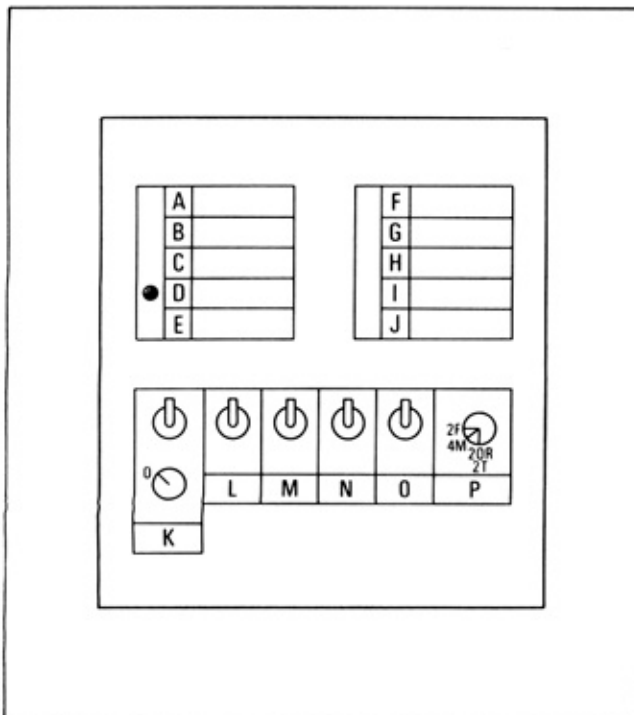
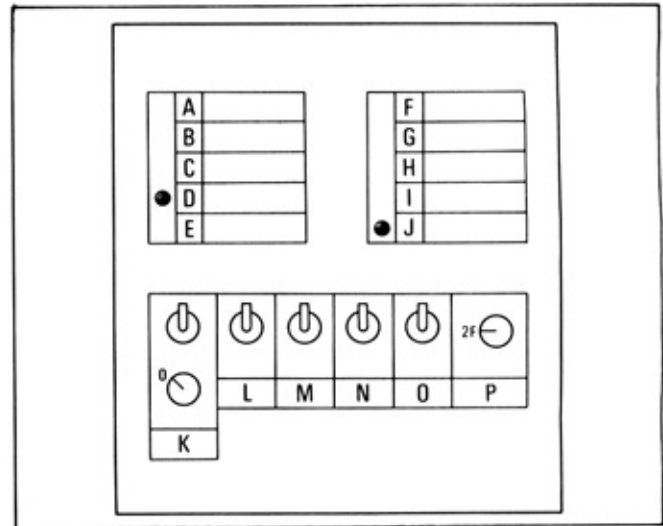

Fig. 18-121 2T-C and 4M Engines and 20R Engine w/o CCo
Fig. 18-123 2F Engine
5. The checker indicator lights should turn on as shown in Fig. 18-121 to -123.
- In this case, ground the terminal of wiring for thermo switch (white head and with 13,105 marking). For 2F engine, unplug the carburetor flange thermo sensor wiring connector. At this time, the check lights should turn on as shown in Fig. 18-121 and Fig. 18-123.